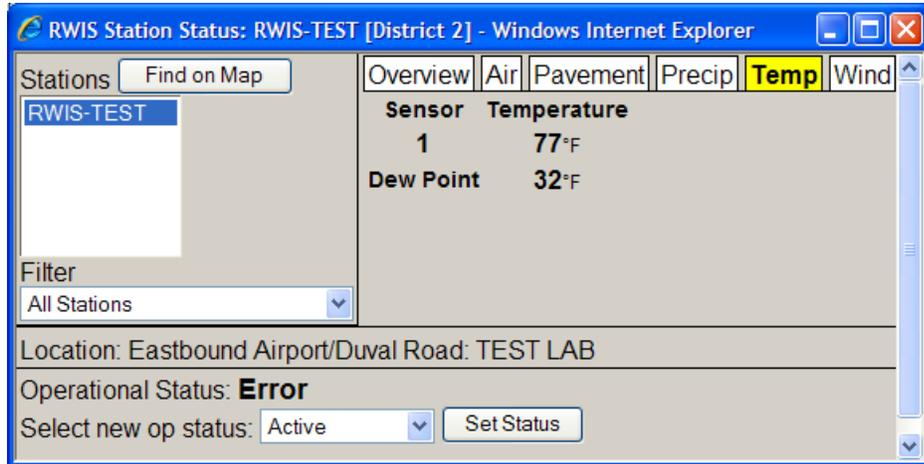

Figure 3–120 – RWIS Temperature Status
- **Wind** (see Figure 3–121): Selecting this tab will change the display to show the details of the wind sensors.